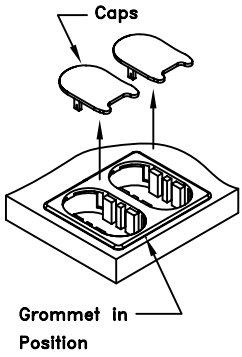

Figure 7
7. Remove cap from grommet assembly. (Figure 7)